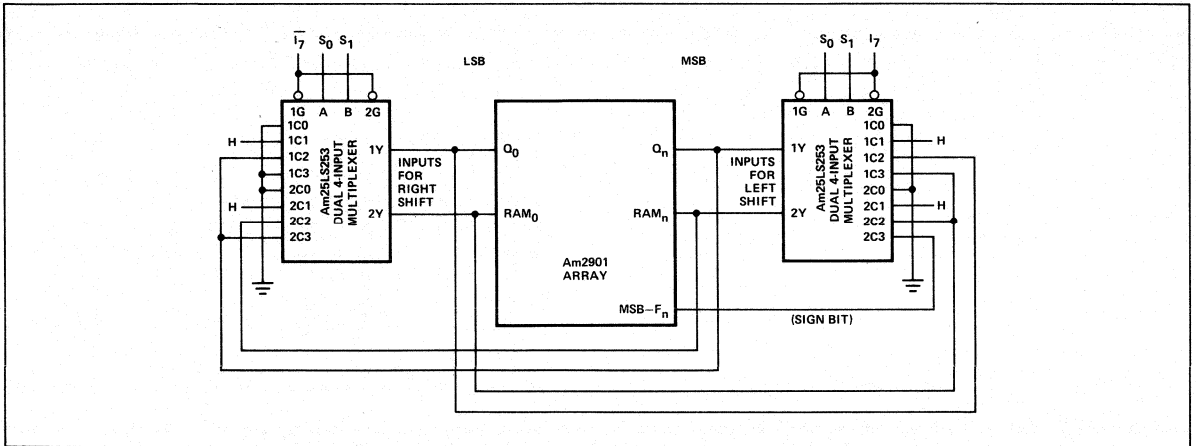

Figure 19. Three-State Multiplexers Used on Shift I/O Lines.
3. This is the delay associated with the multiplexer between the shift outputs and shift inputs on the Am2901s. See Figure 19.
significant device. These connections allow the Q-registers of all Am2901's to be shifted left or right as a contiguous n-bit register, and also allow the ALU output data to be shifted left or right as a contiguous n-bit word prior to storage in the RAM. At the LSB and MSB of the CPU, the shift pins should be connected to three-state multiplexers which can be controlled by the microcode to select the appropriate input signals to the shift inputs. (See Figure 19)
The Q-register and RAM left/right shift data transfers occur between devices over bidirectional lines. At the ends of the array, three-state multiplexers are used to select what the new inputs to the registers should be during shifting. Figure 19 shows two Am25LS263 dual four-input multiplexers connected to provide four shift modes. Instruction bit I_7 (from the Am2901) is used to select whether the left-shift multiplexer or the right-shift multiplexer is active. The four shift modes in this example are: